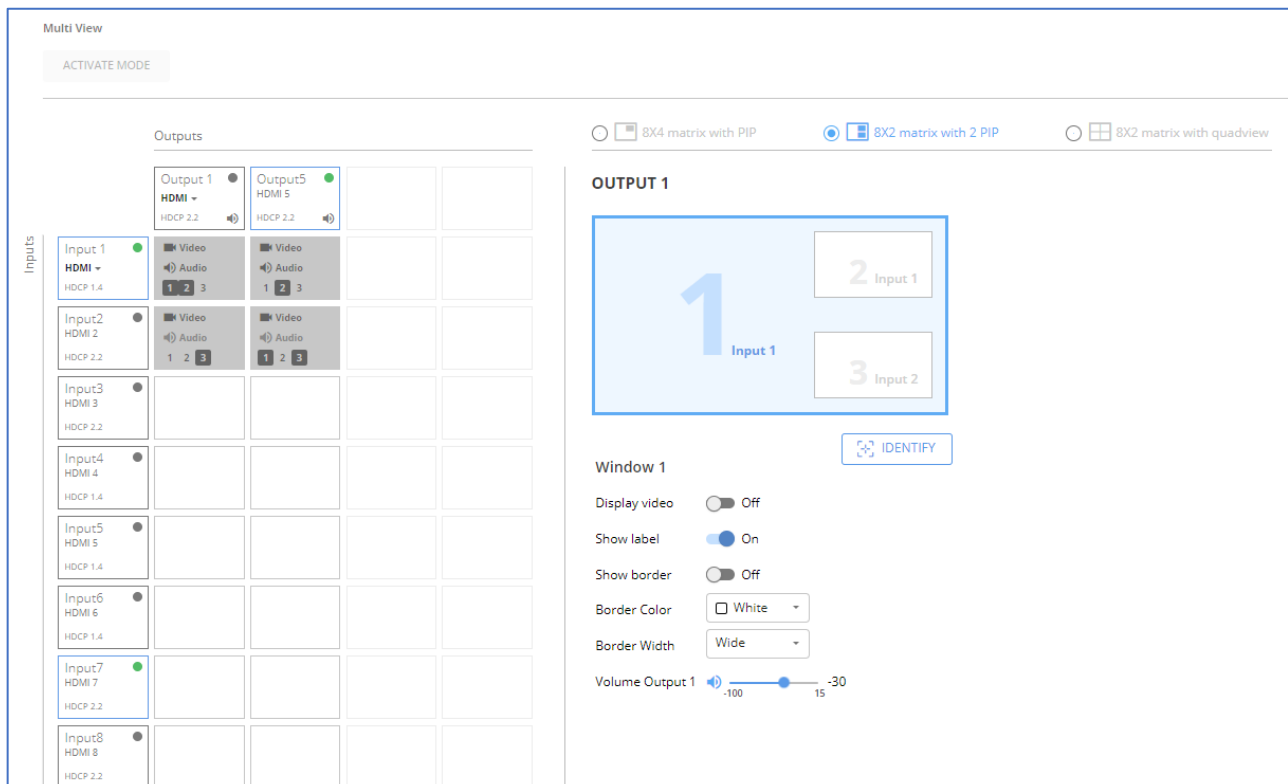

Figure 33: Multi View Mode – 8x2 Matrix with 2 PIP Layout – Initial Settings Page
2. Select **8x2 matrix with 2 PIP** layout settings tab (see Selecting a Windows Layout in the Multi-View Mode on page 12). The 8x2 matrix with 2 PIP layout tab appears (Figure 33).
Initial page of multi-view mode with **8x2 matrix with 2 PIP** layout settings appears, with matrix routing available active 1 and 5 outputs (Figure 33).